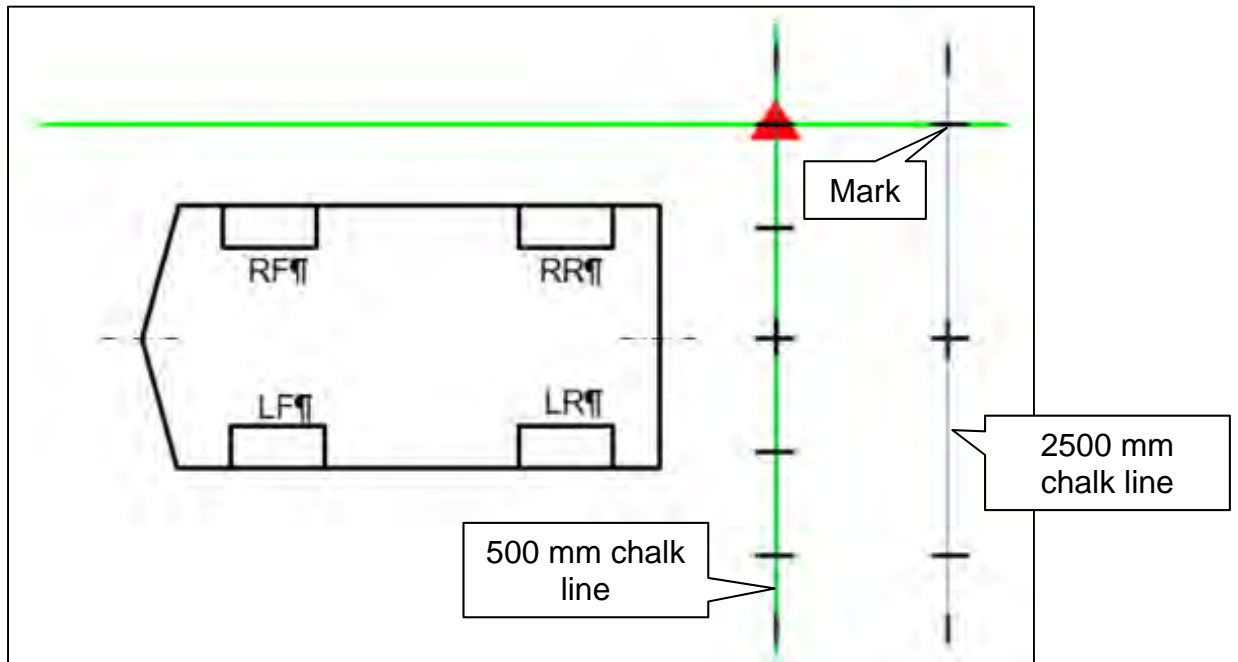
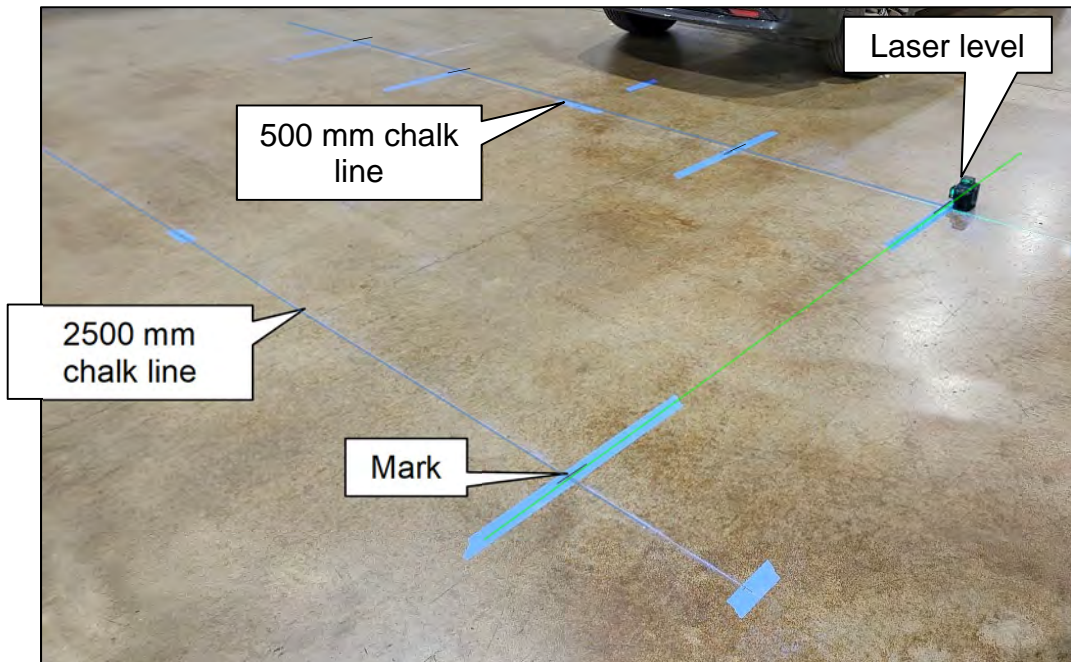

Figure 90
Figure 91
59. Move the laser level to the position shown in Figure 90, and then make a mark on the 2500 mm chalk line, as shown in Figure 90 and Figure 91.